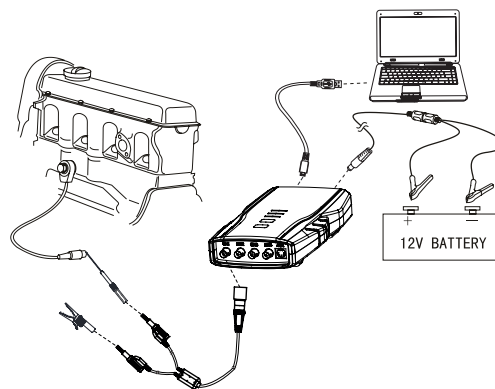

Fig. 34: Equipment connection
1. Connect equipment according to Fig.34, switch on power supply.